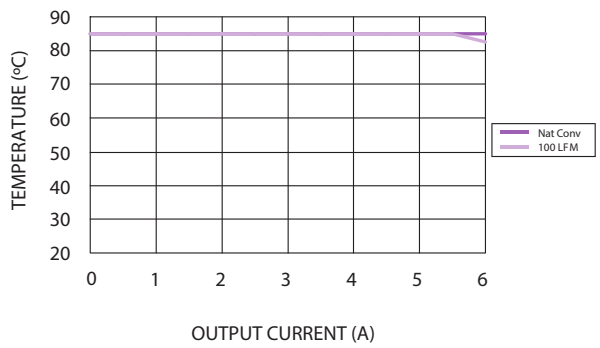

Figure 3 - Safe Operating Area for PTH12050L
- The pk-pk output ripple voltage is measured with an external 10 μF ceramic capacitor. See Figure 3 for Standard application schematic.